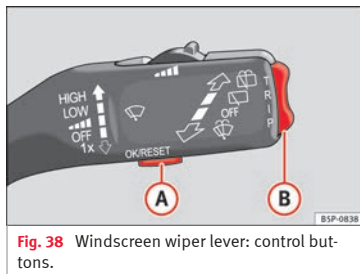

Fig. 38 Windscreen wiper lever: control buttons.
- Select the option **Vehicle status** from the main menu: “Main menu” and press button **OK** on the windscreen wiper lever **A** » Fig. 38. or